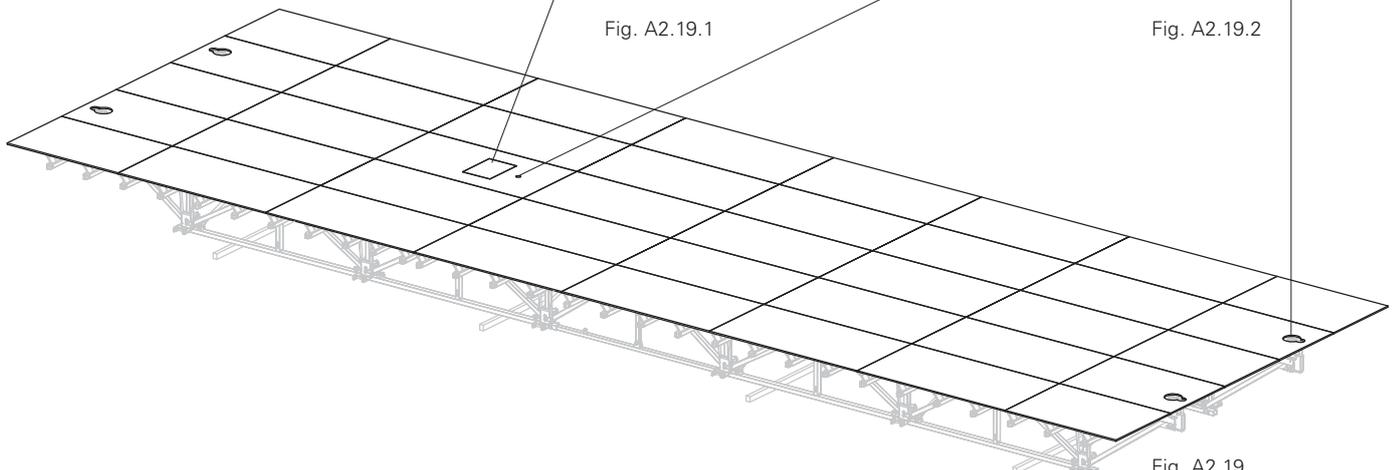

Fig. A2.19
- Lay formlining sheets (14) so that the formlining joints are positioned on one girder. (Fig. A2.19)